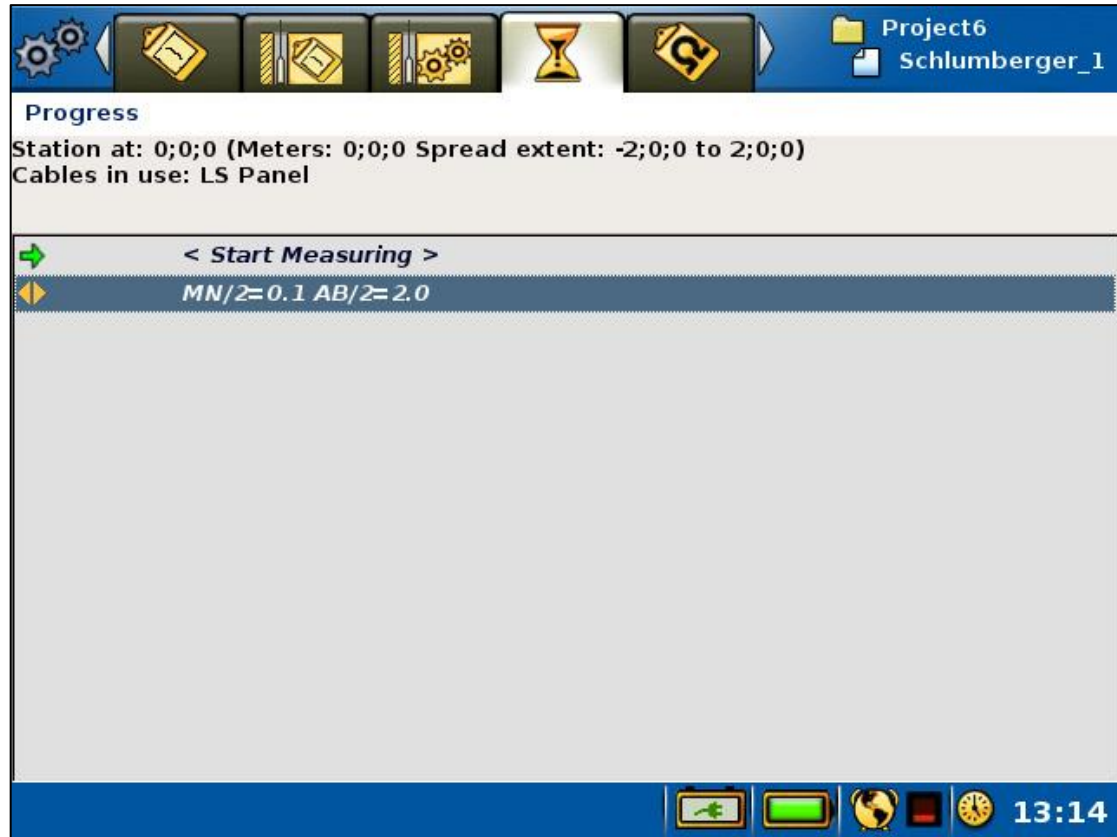
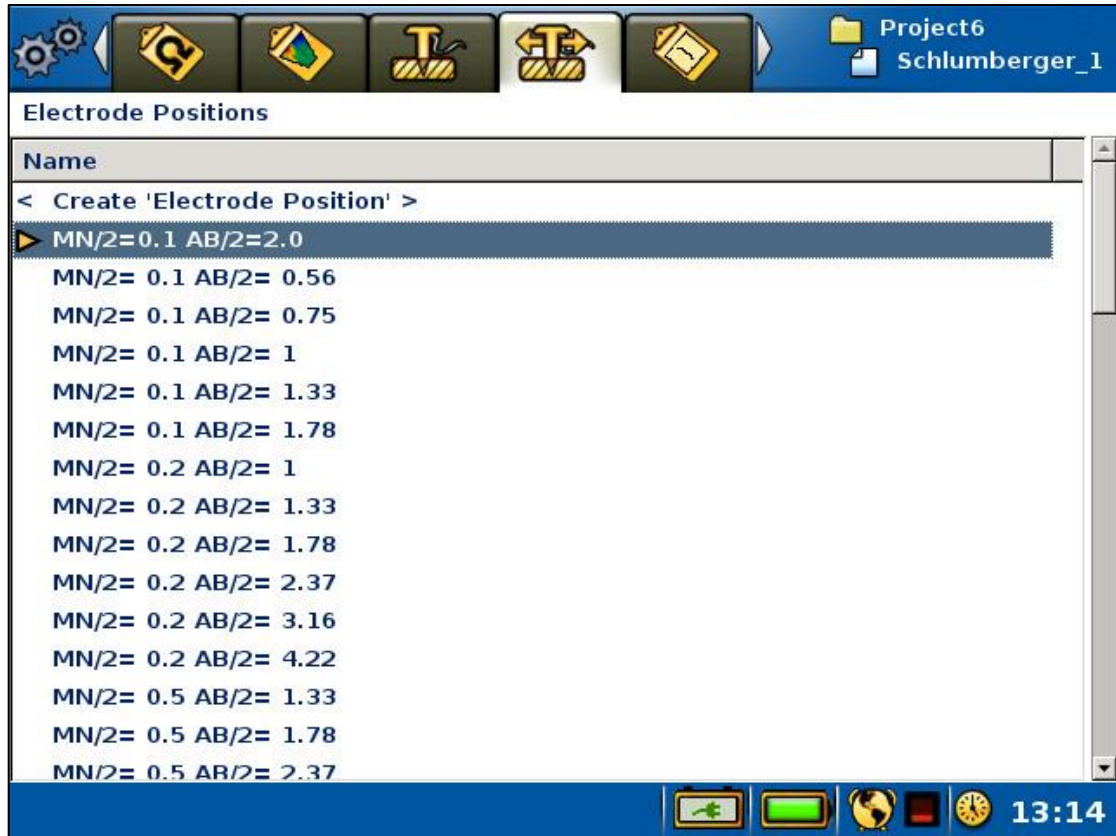

Figure 67 The Progress view in VES mode
Figure 68 The Electrode Positions view in VES mode. Highlight on the second row and active electrode position marker on the fourth row
- The “*Measure/Progress*” View (Figure 67) will be used to start and stop measurements as usual. The active electrode position, that is the electrode position to be measured, can also be set from this View.
- The “*Measure/Electrode Positions*” View (Figure 68) displays a list of all the electrode positions of the active Task. The active electrode position can be set and a new temporary electrode position can be created from this View.
In VES mode a line with a “MN/2 and AB/2” electrode position will be shown on the *Progress View* (Figure 67). This is the active electrode position.
The *Electrode Positions View* (Figure 68) lists all the electrode positions from the protocol file. The dark yellow arrow is placed on the line that corresponds to the active electrode position. This electrode position is the one that is shown on the second row of the *Progress View* (Figure 67). The *Electrode Positions View* will be empty when the instrument is not in VES mode.
- Navigate to the “*Measure/Electrode Positions*” View (Figure 68)